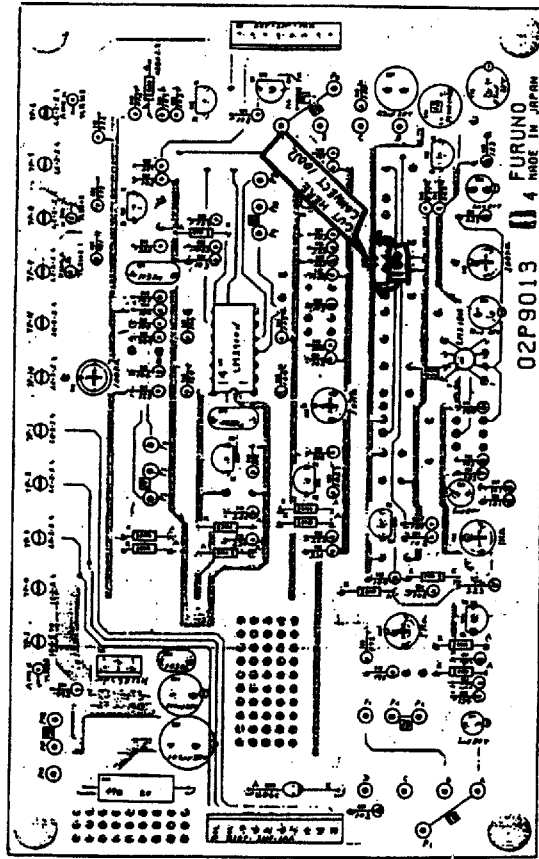

Fig. 6 PCB 02P9013
- Modify the PCB 02P9013 as shown in Fig. 6.